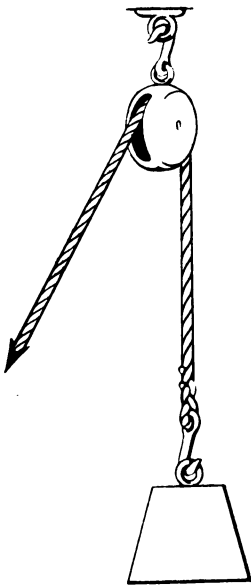

Fig. 177.—Single whip
(1) *The Single Whip* (Fig. 177) consists of a fall rove through a single standing block ; no mechanical advantage is gained. It is used for hoisting light loads, and where speed of hoisting is an important factor.